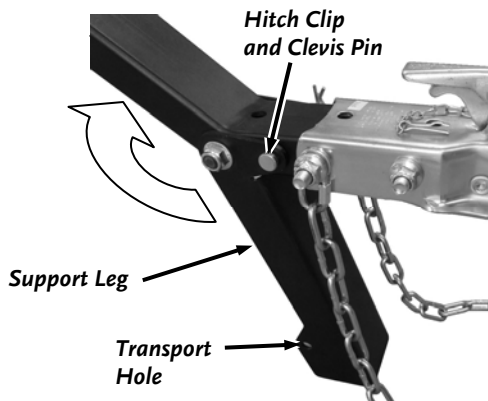

Figure 6
5. Pull the Hitch Clip and Clevis Pin from the Support Leg and fold it up to the transport position. Insert the Clevis Pin through the holes of the Leg and over the top of the Tow Bar and secure with the Hitch Clip (**Figure 6**).